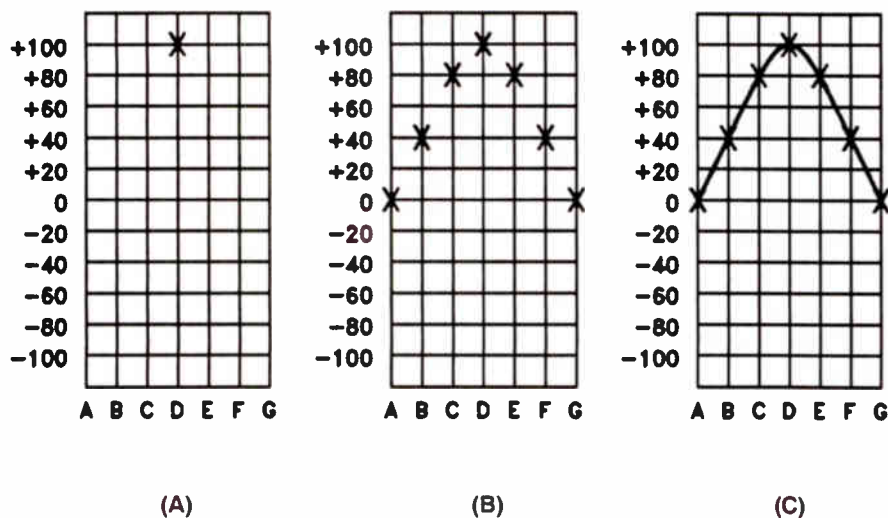

Figure 20. Construction of a graph of the voltage produced by the generator in Figure 11.
graph. In Fig.20, the horizontal line across the center of the graph is the zero voltage line; it represents the voltage at the ground, or common lead. Each horizontal step above the zero line represents a positive voltage. Lines below the center zero line represent negative voltages. The vertical lines each represent one position of the coil from Fig.19.
To have the convenience of round figures, let's assume the coil generates 100 V at the instant it is in the position shown in Fig.19(D). If the voltage is +100 V with respect to the common terminal, we would place a mark (X) on the graph at the point where the +100 V line crosses the vertical line running through D, as shown in Fig.20(A). Similarly, the voltages induced at the other points would be marked on the graph. This would look like Fig.20(B). We then draw a smooth curve joining all these points, as shown in Fig.20(C). This curve represents the voltage produced by the generator through one-half turn.